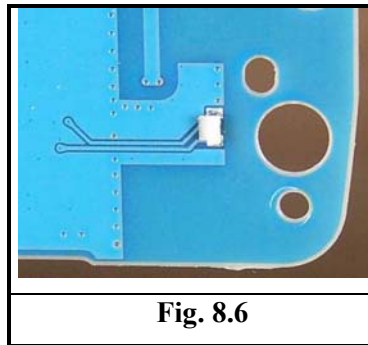

Fig. 8.6
- Check if the sub LCD is lighting up properly. Replace the blue led (*Fig. 8.6*) if necessary.